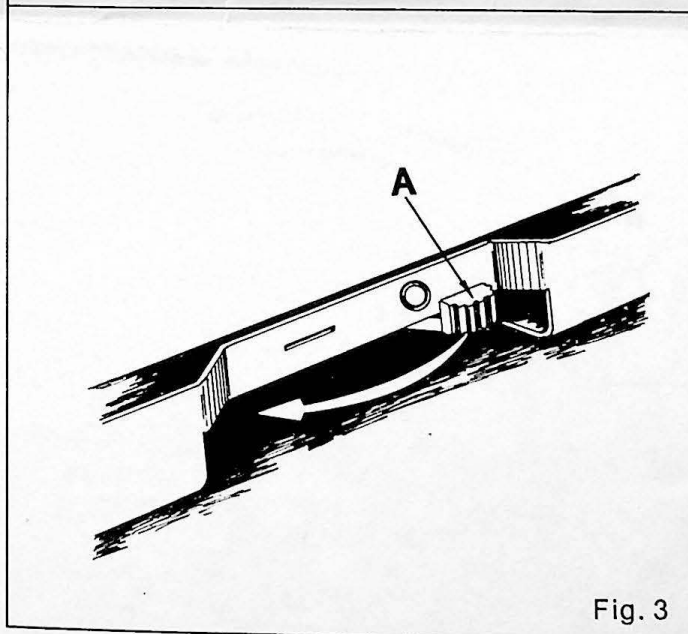

Fig. 3
2. For orbital motion slide lever (A) toward the 0 mark on platen as far as possible. See Figure 3.
3. For straight line motion slide lever (A) toward the — mark on platen as far as possible.